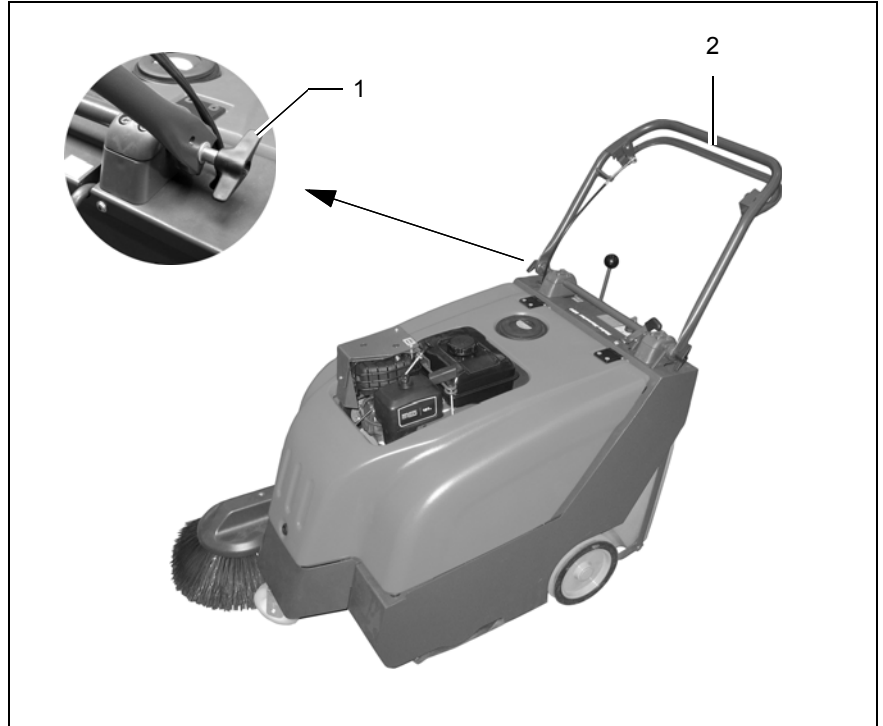

Fig. 4
1. Loosen the wing bolts (Fig. 4/1) on the right and left sides of the handlebar (Fig. 4/2) a few revolutions until the handlebar (Fig. 4/2) can be straightened up.
2. Pivot the handlebar (Fig. 4/2) towards the rear and set it to a height convenient for the user.
3. Tighten the wing bolts (Fig. 4/1) on the right and left sides of the handlebar (Fig. 4/2).